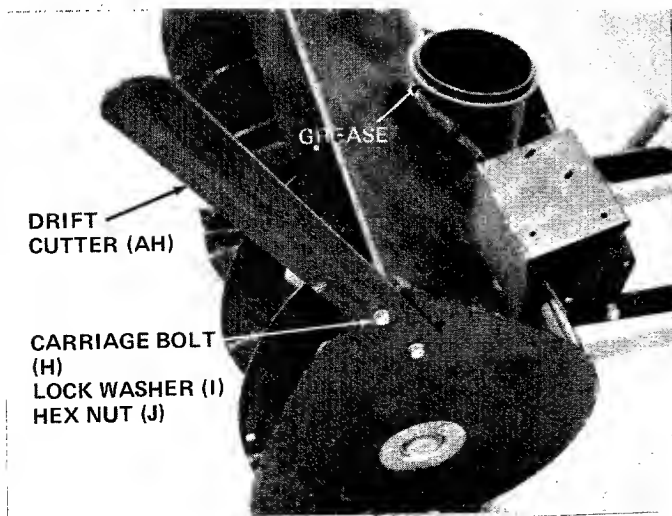

FIGURE 6
6. Assemble the drift cutters (AH) to the snow thrower housing with four carriage bolts (H), lock washers (I) and hex nuts (J). See figure 6. Heads of carriage bolts assemble from the inside of housing.